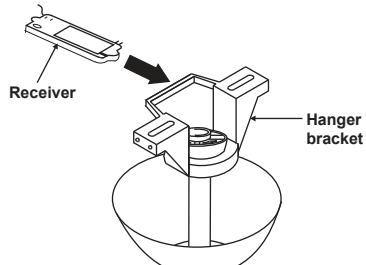

Figure 9
Step 1. (Fig. 9) Insert the receiver into the mounting bracket with the flat side of the receiver facing the ceiling.